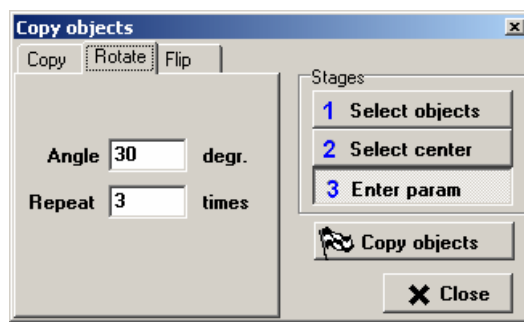

Fig. 14
- **Rotate**. This operation creates new object by rotation of the selected objects. Simultaneous creation of objects by rotating at consecutively increasing angles is available. The **Rotate** tab includes the following elements (see Fig. 14):